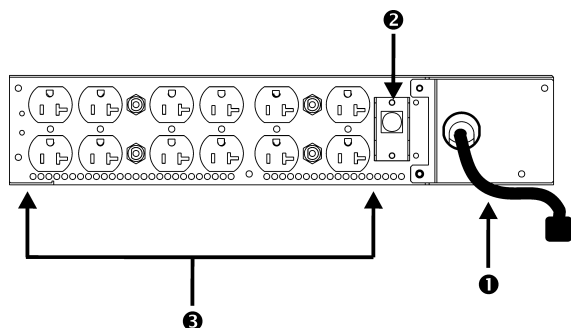
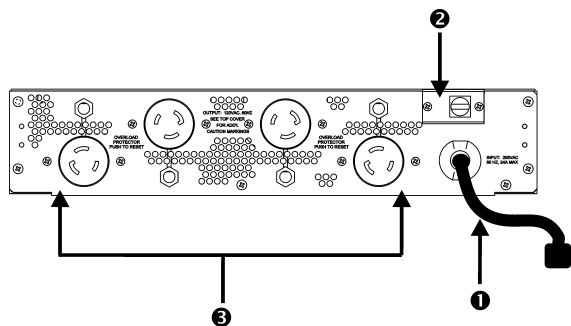

Figure 5: AP9621 / SYTF2 / SYTF2J Rear View
Figure 6: SYTF3 / SYTF3J Rear View
**Input Wiring 1:** Provides access to wiring terminal blocks for hard wiring the input (see Figure 5). An input power cord plugs into an outlet receptacle for cord connected installations (see Figure 6).
**Input Circuit Breaker 2:** The input circuit breaker (see Figures 5 and 6) protects the product and load equipment from extreme overloads.
**Power Distribution Unit (PDU) 3:** Plug load equipment into the appropriate PDU receptacle (see Figures 5 and 6).